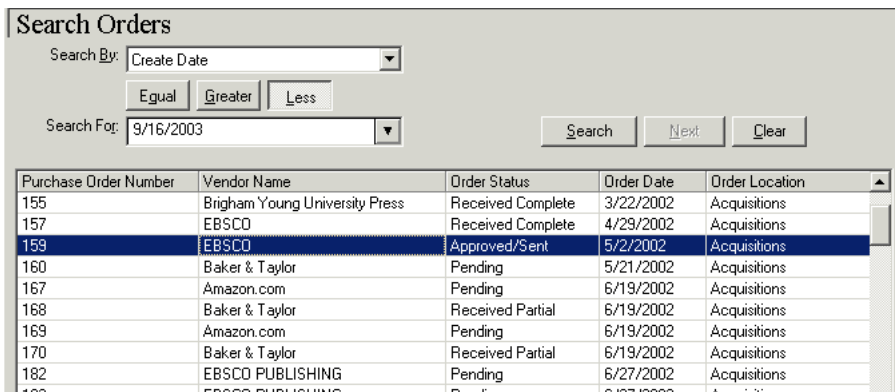

Figure 7-2. Search Orders workspace
- If searching for a purchase order, the **Search Orders** workspace opens with the results of the search (see Figure 7-2).